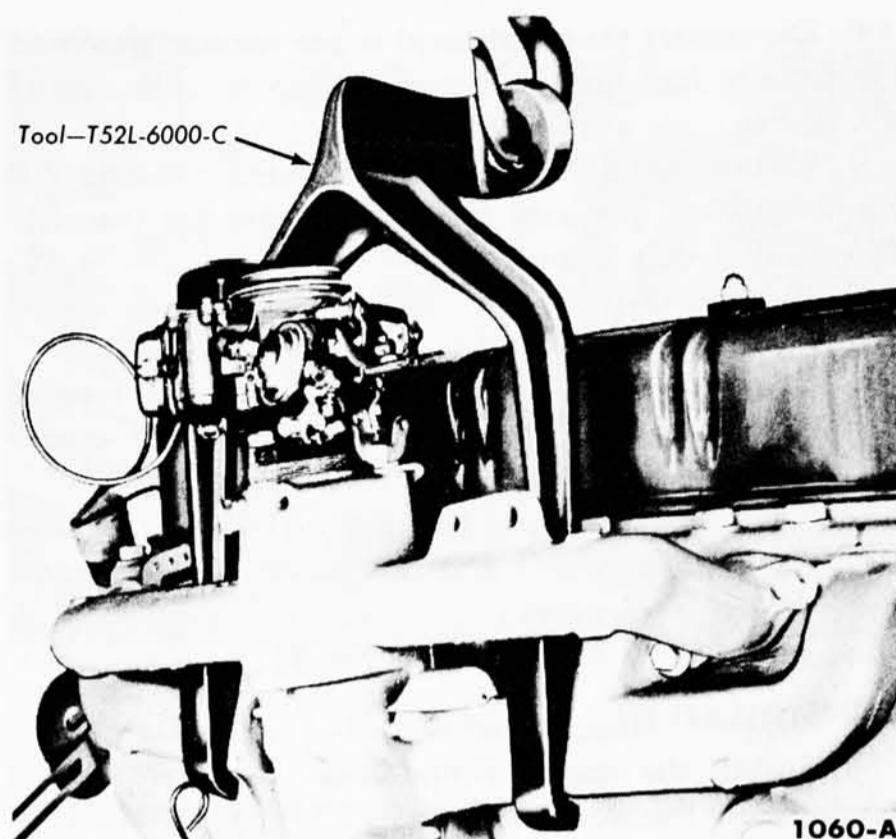
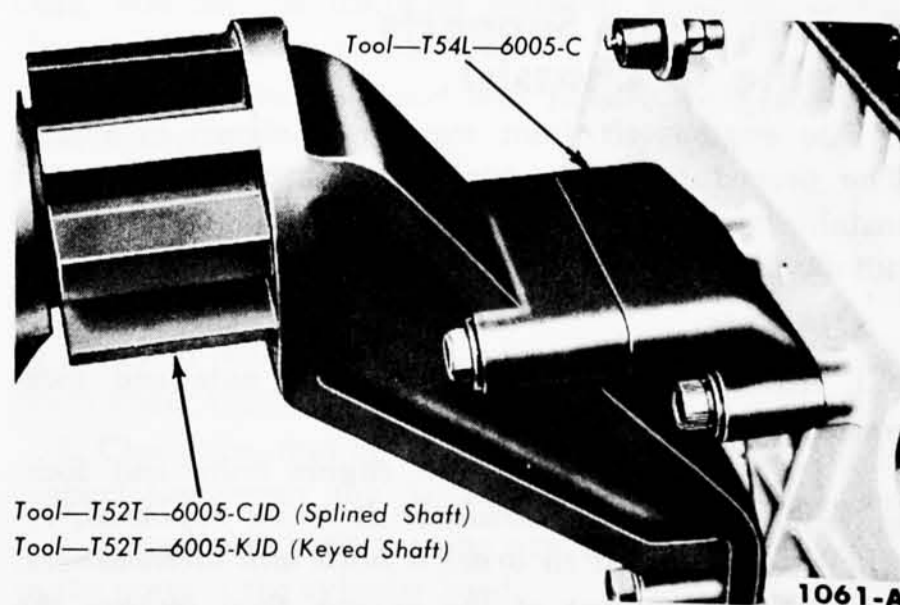

Fig. 6—Engine Lifting Hook
Fig. 7—Engine Mount
13. Attach the engine lifting hook (Fig. 6). Raise the engine slightly, then carefully pull it from the converter housing. Lift the engine out of the engine compartment, then install it on a workstand (Fig. 7).
11. Attach the engine lifting hook (Fig. 6). Raise the engine slightly, then carefully pull it from the transmission. Lift the engine out of the engine compartment, then install it on a workstand (Fig. 7).